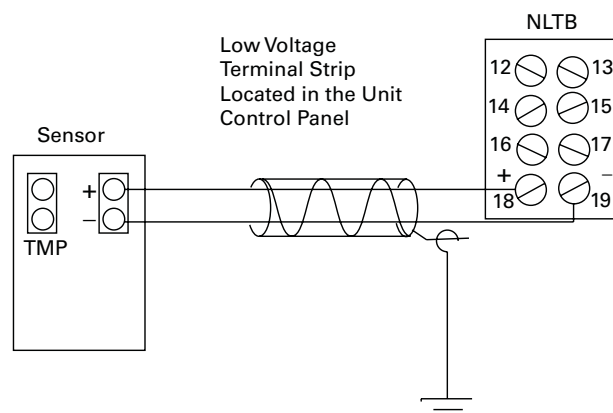

Figure 2. ReliaTel sensor wiring
3. To connect the controller wires to the terminals on the sensor, refer to Figure 2.
5. Refer to Figure 2 for unit connections